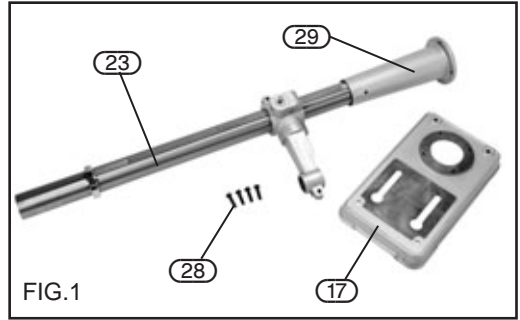

FIG. 1
8.1 BASE TO COLUMN - FIGS. 1 - 3